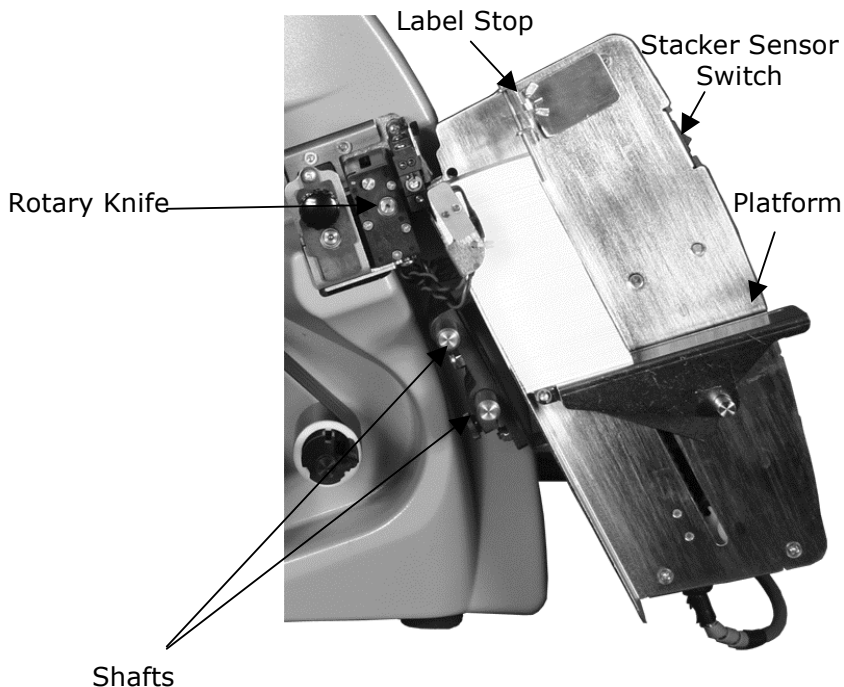

Figure 4. Rotary Knife and Stacker with Bottom Tipped Out
1. Locate the two shafts on the printer below the Auxiliary Feed and Knife assembly (see Figure 4).